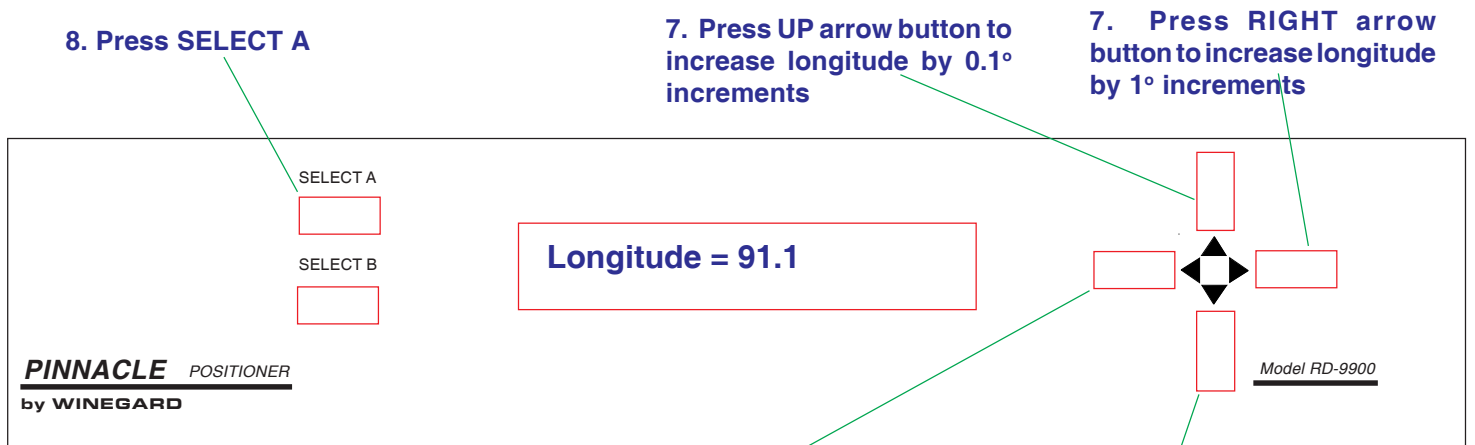

Figure 20
9. Press [ARROW BUTTONS] to display correct longitude, Figure 20.
10. Press [SELECT A] to enter longitude, Figure 20.